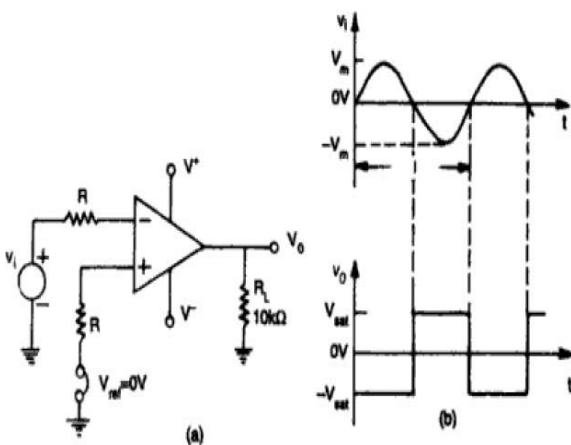

Fig. 5.4 (a) Zero crossing detector (b) Input and output waveforms
- The basic comparators either non-inverting or inverting can be used as a zero crossing detector provided that V_{ref} is set to zero. An inverting zero-crossing detector is shown in figure 5.4 (a).
- The input and output waveforms are shown in Figure 5.4 (b).